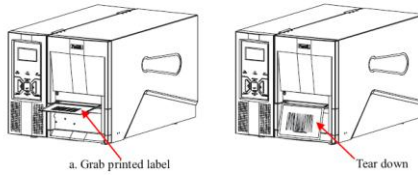

Figure 9
2. Follow the directions shown in Figure 9 to tear off the label;